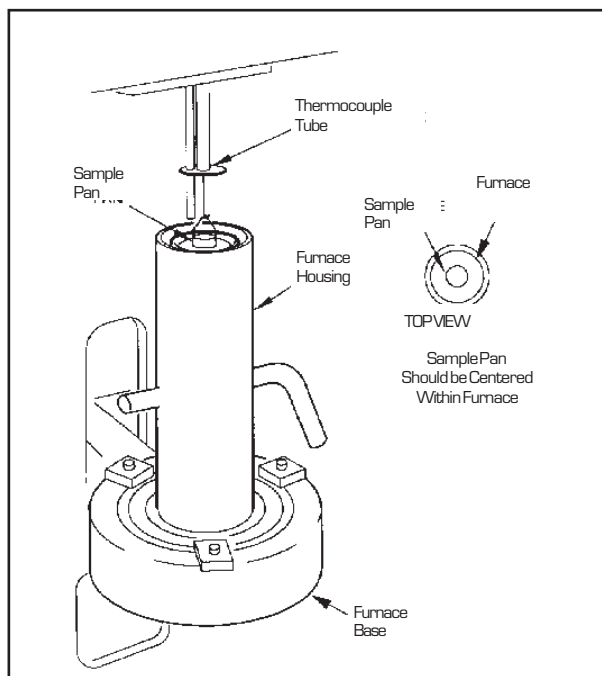

Figure 2.17
2. Check the alignment of the sample pan within the furnace. It should hang freely, roughly centered, and should not be touching the sides of the furnace or the thermocouple tube (Figure 2.17).